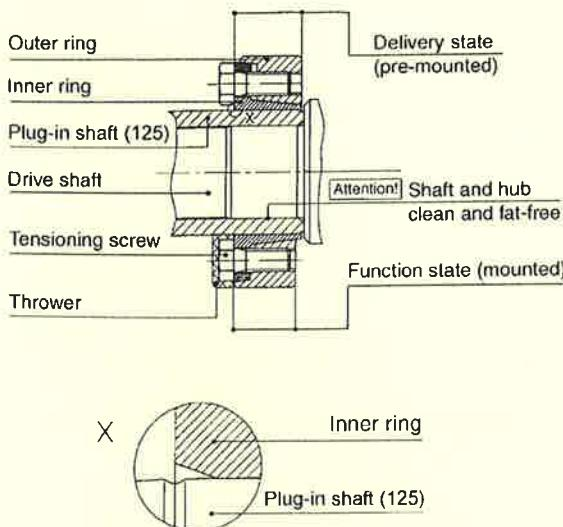

Figure 6: Clamp sets in the inner collar
**ATTENTION** Do not tighten the clamp bolts before sliding the plug-in shaft (125) onto the drive shaft.
**ATTENTION** Clean and **degrease** the shaft of the drive and the boring of the plug-in shaft (125).
- Slide the thrower (123) onto the plug-in shaft (125).
- Slightly grease the seat of the clamp set (123) on the plug-in shaft (125) and slide the clamp set (123) all the way onto the plug-in shaft (125).
- Slide the plug-in shaft (125) all the way onto the drive shaft.
- Tighten the clamp bolts of the clamp set (123) in sequence. To do so, turn the plug-in shaft if necessary.
**ATTENTION** All clamp bolts have to be tightened until the front surfaces of the outer and inner ring are plane and the screw pick-up increases strongly (see function state in figure 6). The admissible screw pick-ups [Nm] are engraved in the clamp set (123).
- Check the right position of the clamp set (123) on the plug-in shaft (125) in accordance with figure 6, detail X.
- Pull the thrower (123) onto the clamp set (123).